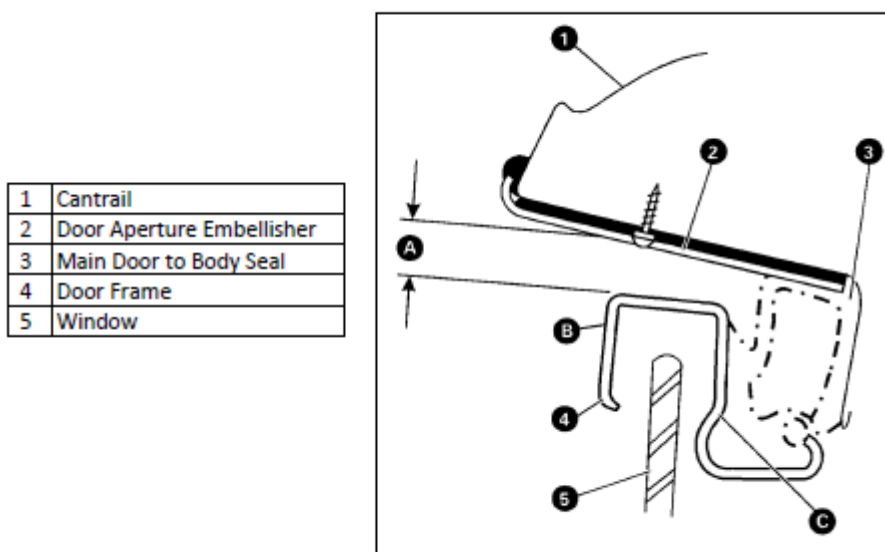

Fig. 1 Section through door and aperture
1) Measure the gap (shown as dimension 'A' in Fig. 1 below) between the top of the door frame and the door aperture along the full length of the frame Fig. 1 Section through door and aperture.
7) Clean the frame outer surface between points 'B' and 'C' shown in Fig. 1. with a suitable cleaning solution and anti greaser, such as white spirit.
8) Apply 3M Primer Pen to the frame outer surface between points 'B' and 'C' shown in Fig. 1. Wait until dry.